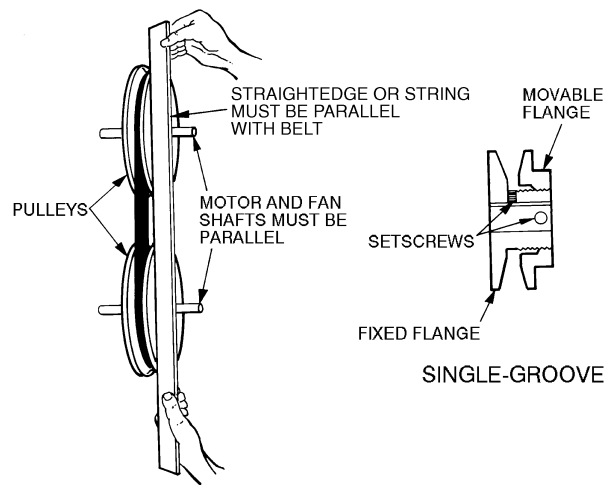

Fig. 40 — Indoor-Fan Pulley Adjustment
3. Loosen the movable pulley flange setscrew (see Fig. 40).